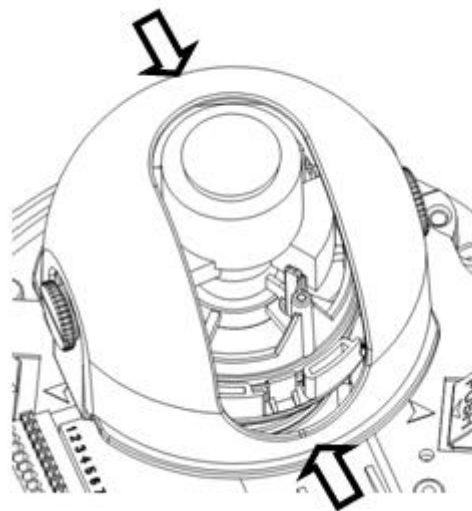

Figure 3-5
a) For the IR series product, you can skip current step and go the step b) directly. For the non-IR series product, push the port slightly to remove the decoration enclosure from the black plastic enclosure. See Figure 3-5.